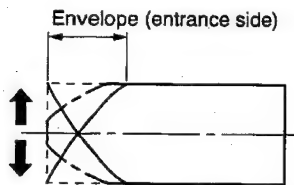

Fig. 2-1-85 Video envelope rising when operation mode is switched from review to play mode
2. Switch the Review mode to the Play mode. When switched to the Play mode, make sure the entrance side envelope comes to an approximate steady state within 3s as shown in Fig. 2-1-85.